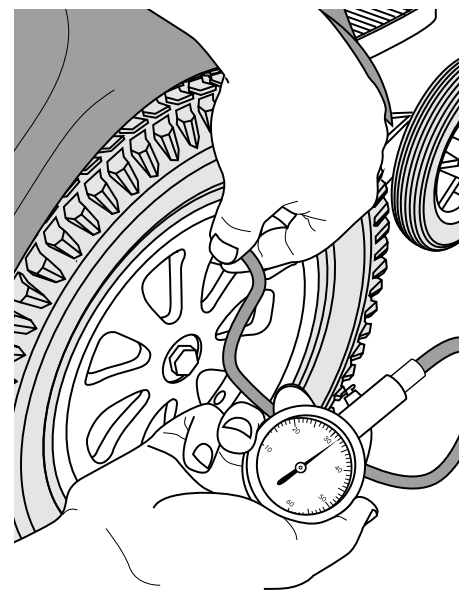

Figure 26. Check Tire Pressure
- Make sure the drive tires are inflated to 30–35 psi. See figure 26.